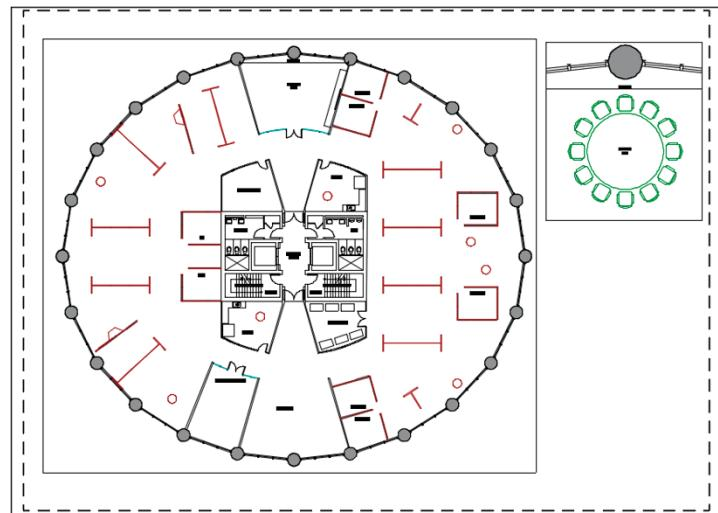

FIGURE 13.22 Furniture is visible in the viewport on the right but not in the left viewport, whose layer properties have been overridden.
4. Double-click on the layout outside the viewport to switch back into paper space. The furniture and furniture systems disappear from the current viewport, but the Conference Room round table is still visible in the viewport on the right of Layout2 (see Figure 13.22). Close the Layer Properties Manager.